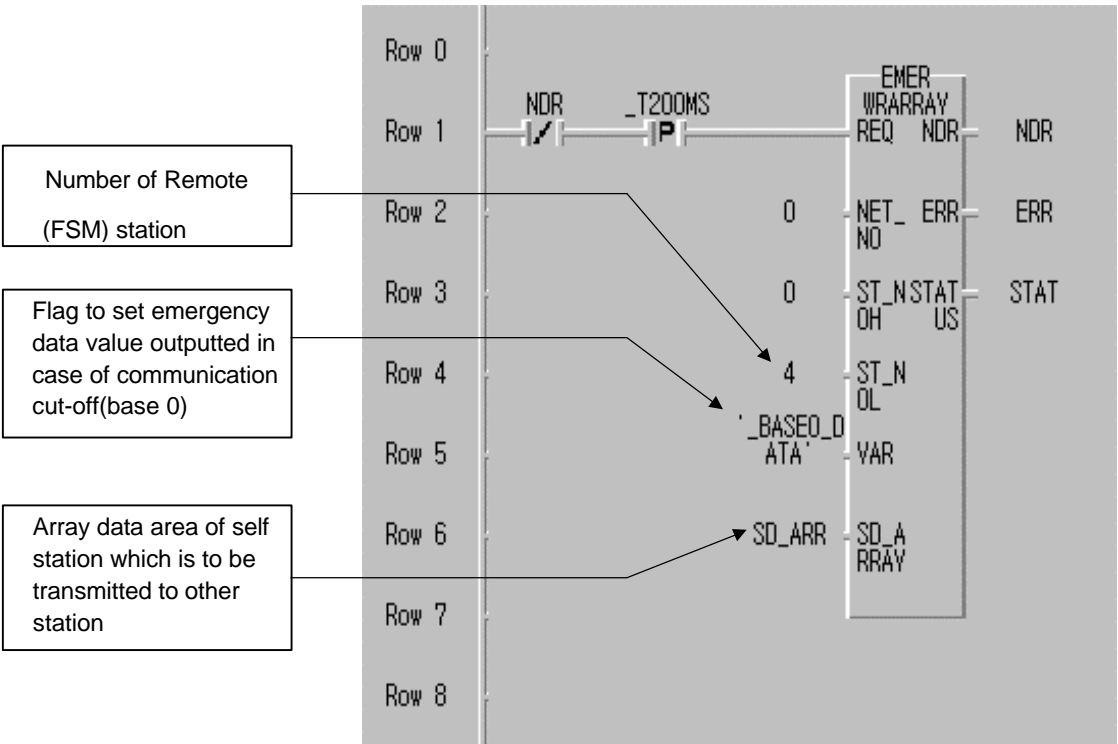

Fig. 6.6.7(D) Ex. of emergency data output program using _BASEx_DATA flag
Fig. 6.6.7(D) shows an example that transmits user-defined emergency data to remote station using _BASEx_DATA of FSM communication flag by GMWIN program. WRARRAY is used for *function block* as shown in Fig. 6.6.7(D). NET_NO indicates slot location that communication module(FMM) that this communication block is executed is mounted. Set ST_NOH to '0' and enter station number of remote module into ST_NOL. Use '_BASE0_DATA' flag(if remote 0 base) for variable identifier(VAR) to be transmitted to other station, and set SD_ARR that array data of self station to be transmitted to other station(station 04) to SD_ARRAY.
Specify data type as 'Array (0. 31) OF WORD' in 'Variable add/edit' list as Fig. 6.6.7(E). (Set array number to 32 and set type to word type, because a slot is fixed with 4 word and a base can mount up 8 slot)